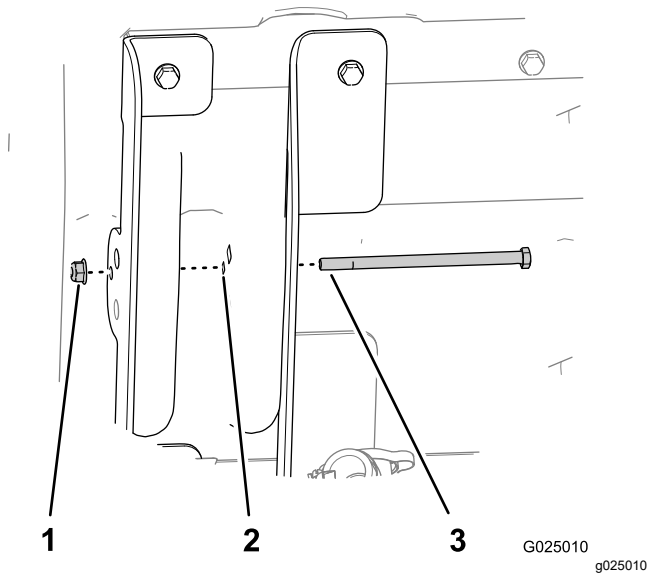

Figure 6
7. Insert the hex-head bolt (5/16 x 5-1/2 inches) through hole 8 mm (5/16 inch) in the inboard-lift bracket (long flanges), bed structure, and the outboard bed-lift bracket (short flanges) as shown in Figure 6.
8. Secure the bolt with the flange nut (5/16 inch) hand-tight (Figure 6).
11. Tighten the flange nut that secures the bolt (5/16 inch) until it is snug (Figure 6).